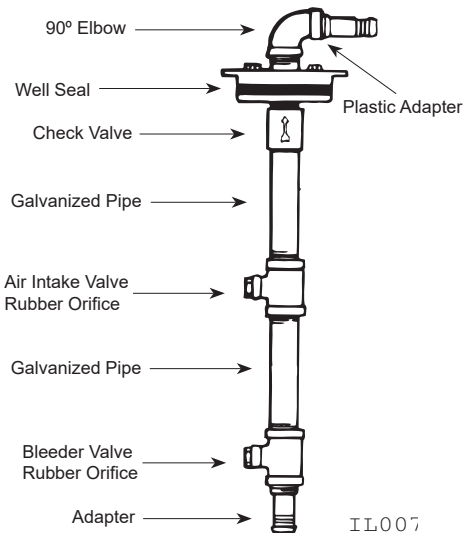

Figure 7
- On a standard pressure tank installation, assemble bleeder orifice and pipe assembly as shown (See Figure 7).